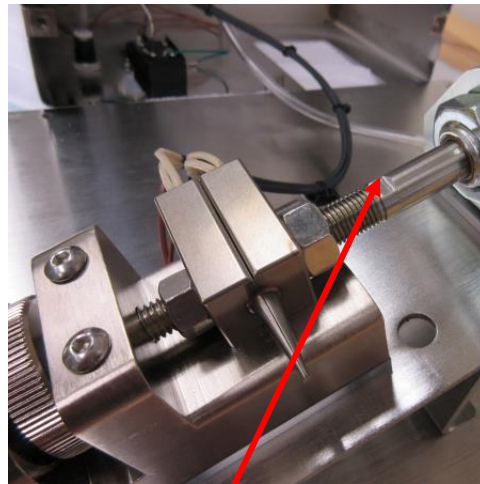

Figure 3.4.3
- Turn the thumb wheel clockwise until the cylinder shaft is fully extended in the jaw block channel to remove force from cylinder shaft. **Figure 3.4.3**